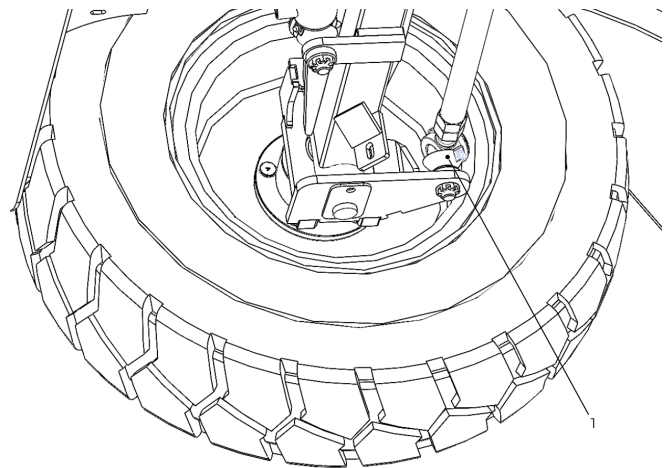

Figure 29. Rubber Bellows Inspection.
Inspect rubber bellows (1) (see figure 29) installed on the vehicle components for signs of damage, cracks or dryness.